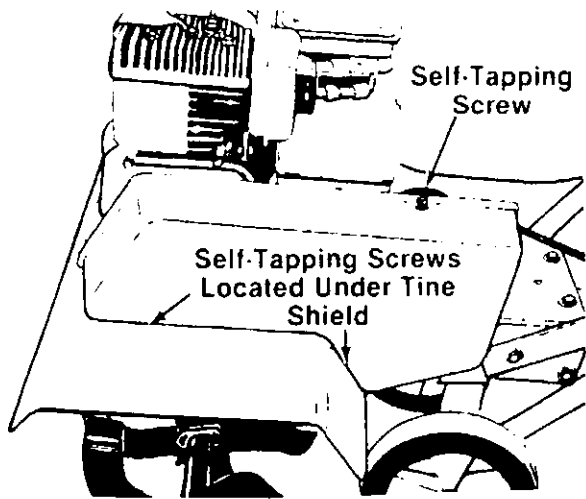

FIGURE 26.
1. Remove the belt cover by removing three self-tapping screws. A 3/8" wrench is required. See figure 26.
2. After removing three screws, lift off belt cover. See figures 26 and 27.
6. Reassemble the belt cover. See figure 26.